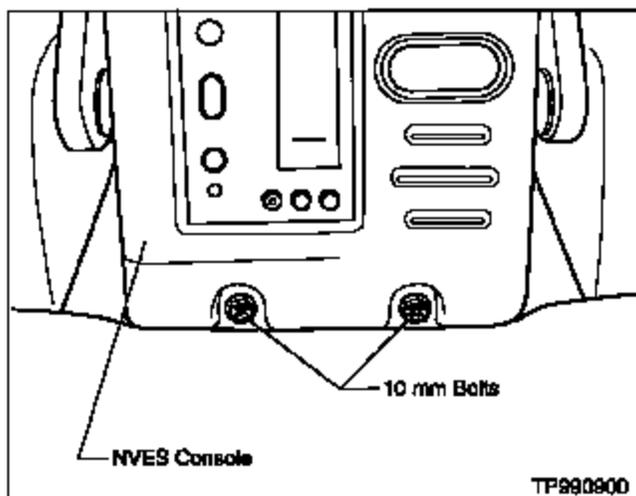

Figure 3
- B. Re-position the floor mat between the front seats and the second row seating to access the two rear NVES console mounting bolts (see Figure 3).
- C. Remove the two, rear console mounting bolts (see Figure 3).